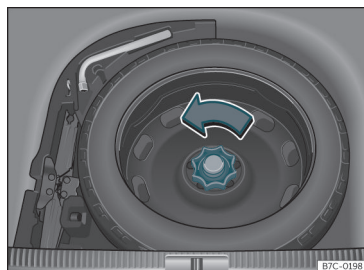

Fig. 216 In the luggage compartment: load floor raised.
- Turn the thumb wheel anti-clockwise »» **Fig. 216**.